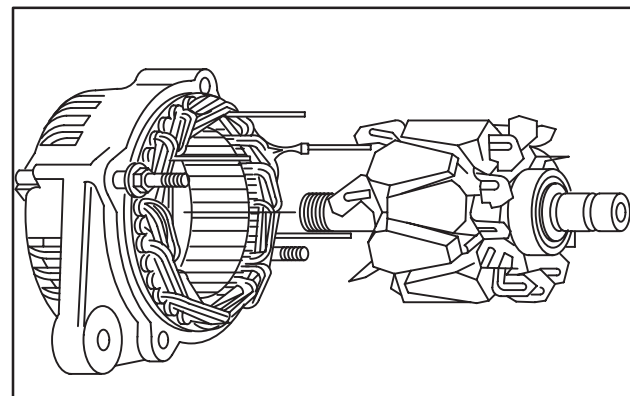

Fig. 36 – Installing Rotor
1. Assemble rotor to drive end housing, Fig. 36.